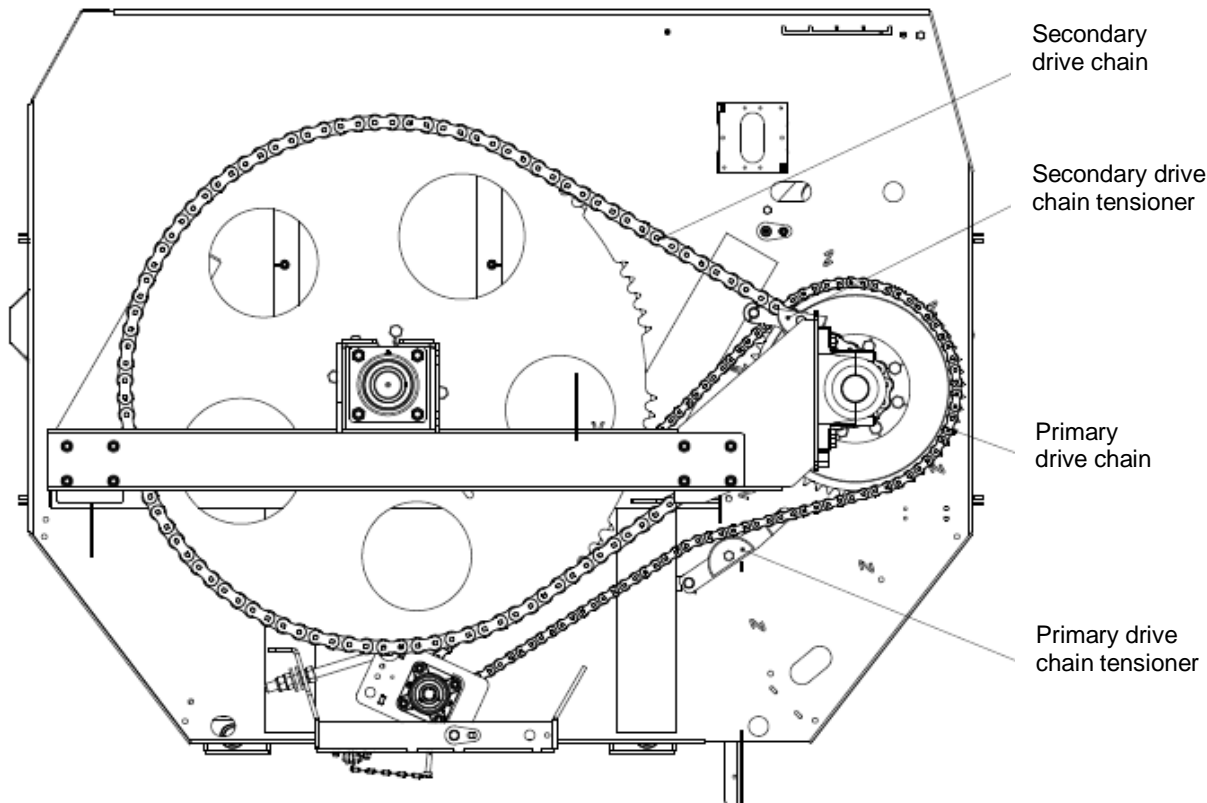

Figure 10: Front panel of KEENAN MechFiber mixer wagon
1. Each week, check the condition of the chain tension arms and adjust as required. There are two chains used on the KEENAN MechFiber model. The primary drive chain (ASA100) drives the auger shaft and the secondary chain (ASA140HS) drives the rotor (see Figure 10). Both chains are tensioned by spring assemblies on the slack side of the chain.